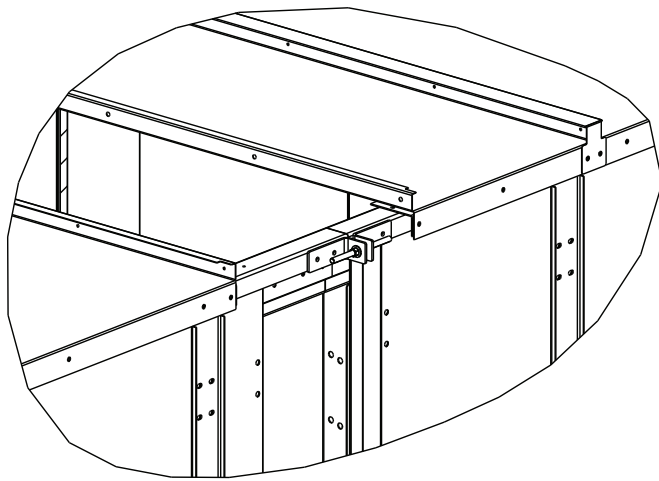

Fig. 42 — Top Rail Brackets
11. Attach (4) brackets to top rails. Using 3/8-in. x 6-in. threaded rods, nuts, washers and backing plates provided, pull the top rails together and secure with top rail guide from Step 5. See Fig. 42. Remove threaded rods and brackets after securing top rail guide.